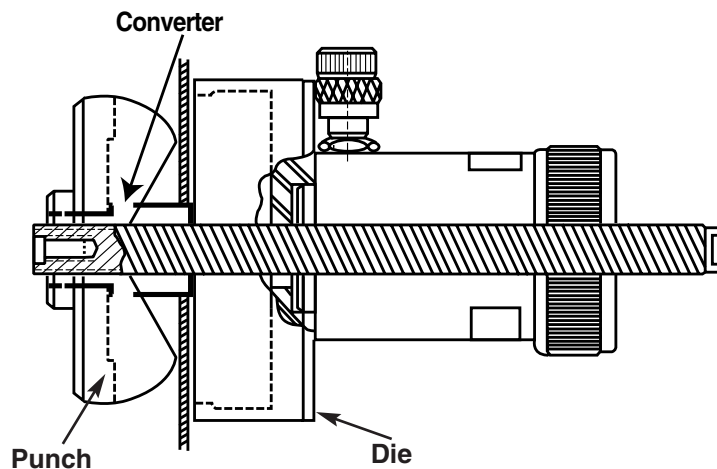

Figure 7
3. Remove the 1 1/2" punch and die. Install the 3 1/2", 4", 5", or 6" die over the pull rod. (See Figure 7)
4. Install the KC3540 converter on the inside of the punch. (Figure 7)